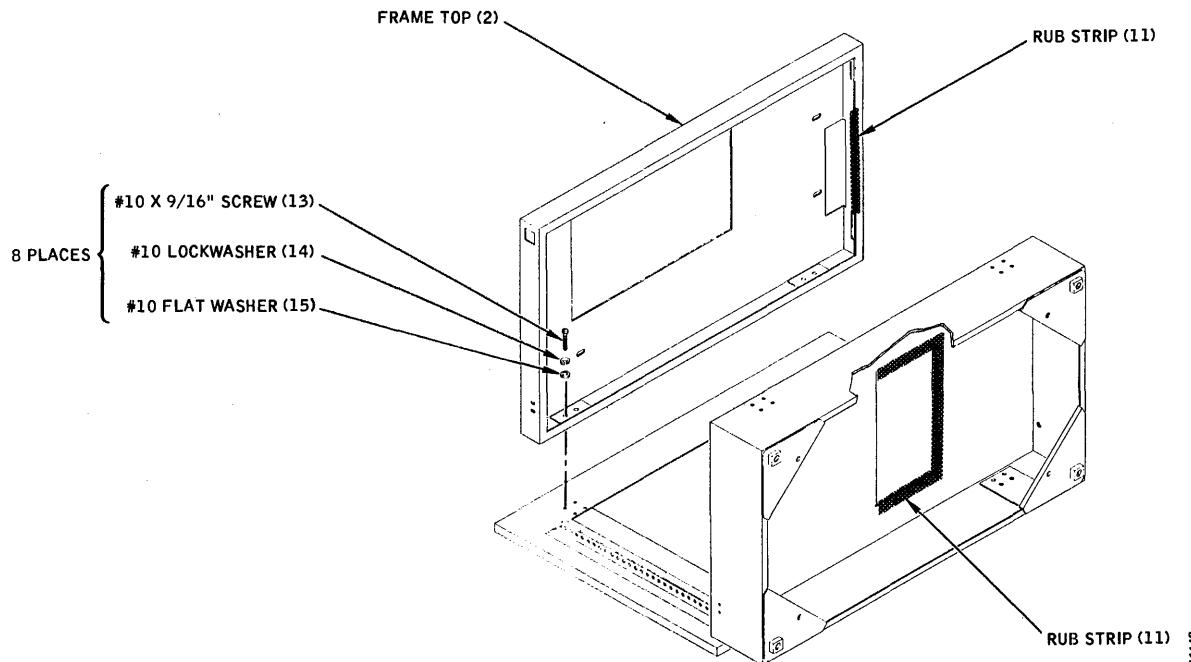

Figure A-2. Stand Assembly, Steps 3 and 4
3. Place the Frame Top (2), oriented as shown in Figure A-2, into position, and assemble it to the Left Side Panel, using eight #10 x 9/16" pan head screws (13), split lockwashers, and flat washers (13, 14, 15), as in the preceding step.
4. Cut lengths of plastic rub strip (11), as required, and install them over the frame edges shown in Figure A-2.